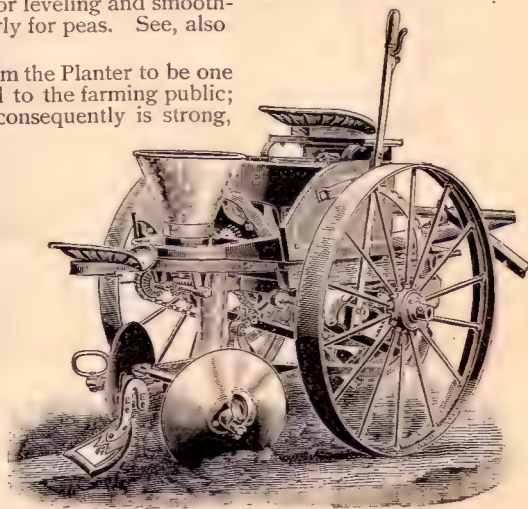

Fig. 68
**Peas, Etc.**—For this purpose we have an attachment to put on in the place of the Feed Wheel and which has given perfect satisfaction, particularly in the planting of peas, a large acreage being thus annually sown with the most decided advantages over other methods. See Fig. 68.
As another attachment, we have the Leveler, for leveling and smoothing the rows, a capital thing in some soils, particularly for peas. See, also Fig. 68.